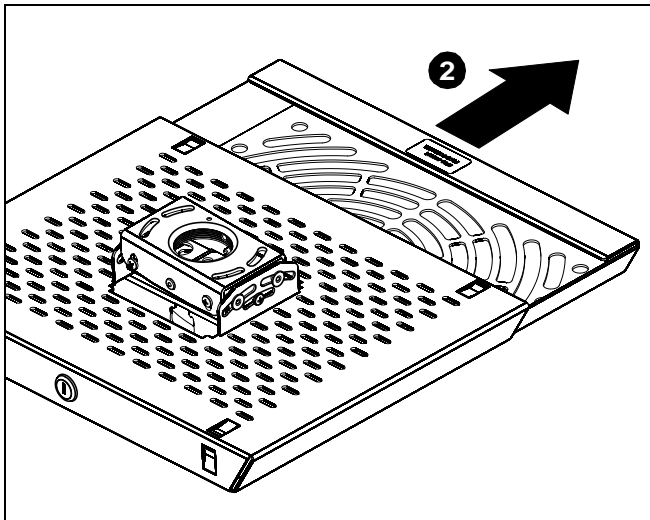

Figure 1
2. Remove drawer from RPAA1 outer sleeve. (See Figure 1)